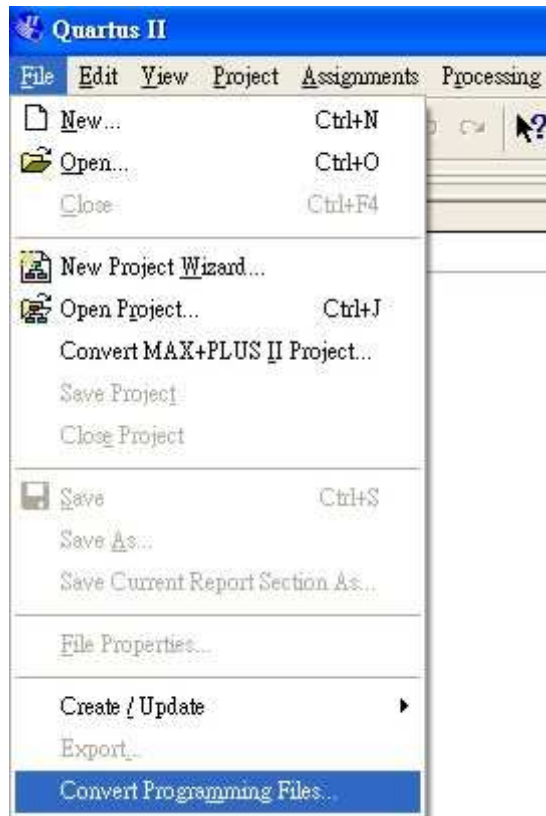

Figure 5.3. Open the menu for Converting Programming Files
1. It will create a SOF file (DE2_Default.sof) for user to program the FPGA. To program the active serial device, you need to convert programming file to POF format. Figure 5.3 shows the Convert Programming File menu.